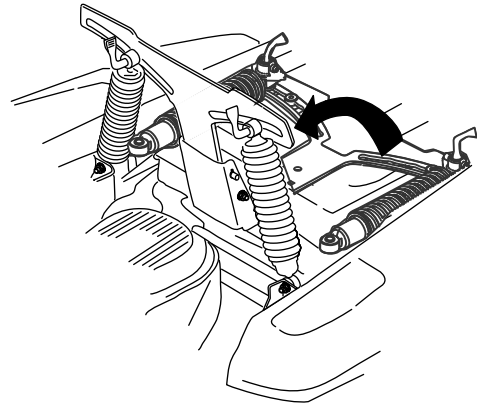

Figure 2
2. Rotate the suspension up (Figure 2).